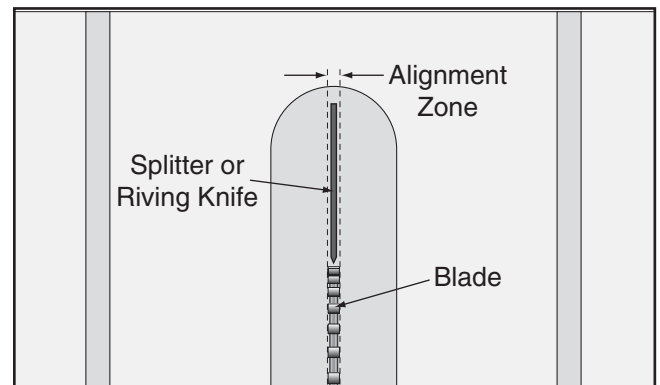

Figure 24. Splitter/riving knife alignment zone.
25. Place a straightedge against the blade and the splitter. When properly aligned, the splitter/riving knife will be in the "Alignment Zone," shown in **Figure 24**, and will be parallel with the blade.